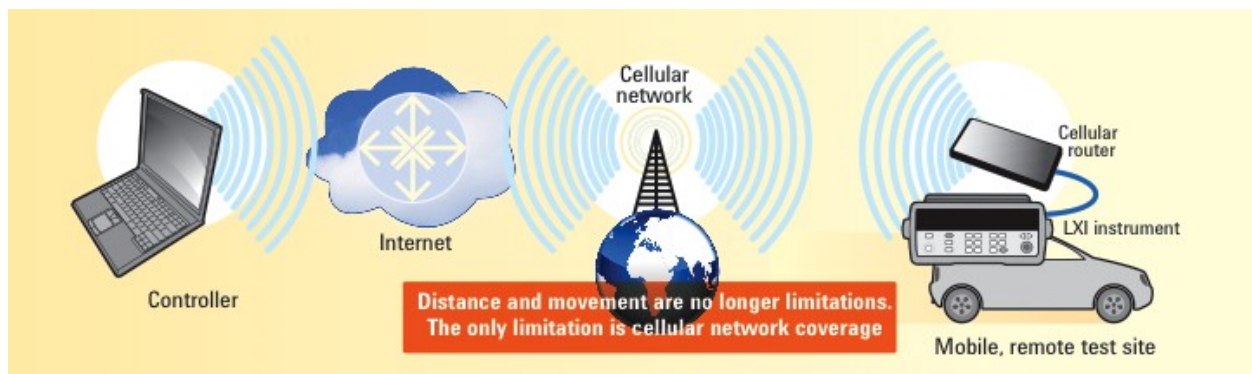

Figure 3. Cellular router setup
- Using a Cellular router -- Can connect to the Internet from almost anywhere as long as there is cellular network coverage. The cellular router setup is shown in Figure 3.